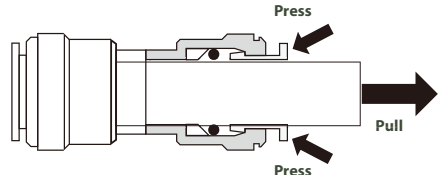

Figure 3
2. Use your thumb and index finger to press down on the lock sleeve. Use your other hand to pull out the tubing from the fitting (Figure 3).
2. Use a screwdriver to pry open the quick-release clamp and remove the quick-release plug Figure 3.